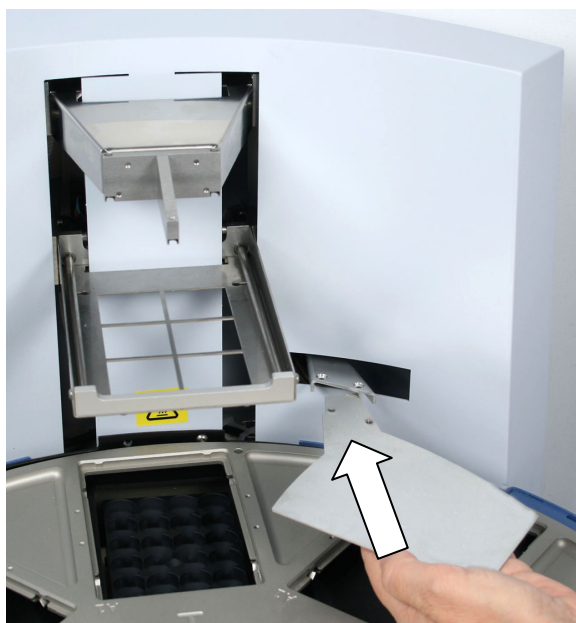

Figure 3-19. Inserting the shield plate
3. First insert the shield plate into its slot (Figure 3-19).